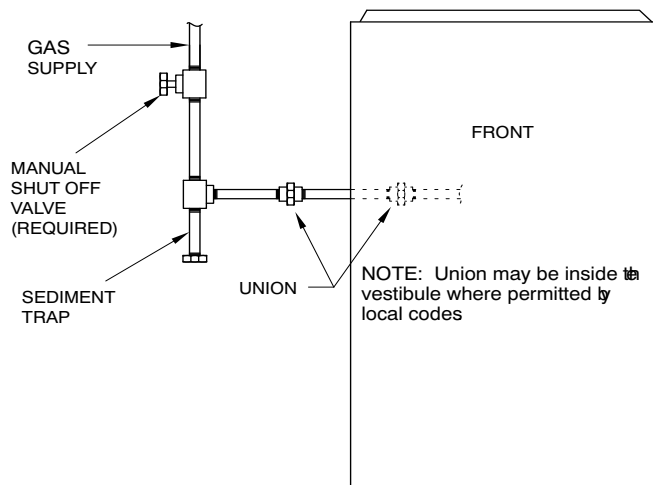

Fig. 31 – Typical Gas Pipe Arrangement
Install a sediment trap externally in the riser leading to furnace as shown in Fig. 31. Connect a capped nipple into lower end of tee. Capped nipple should extend below level of furnace gas controls. Place a ground joint union between furnace gas control valve and exterior manual equipment gas shutoff valve.
5. Fasten the external electrical box to the furnace casing using two (2) sheet metal screws.
11. Connect field power and neutral leads to furnace power leads inside the external electrical box as shown in Fig. 31.